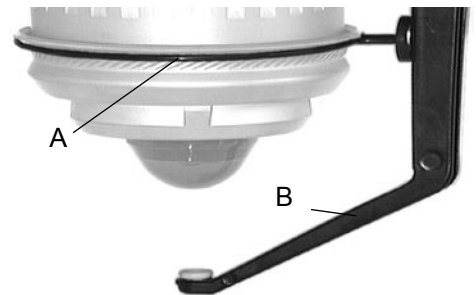

Fig. 20
In order to fit the tension ring holder (A) the standard lower arm must be replaced by the lower arm for tension ring holder (B) (see Fig.20).